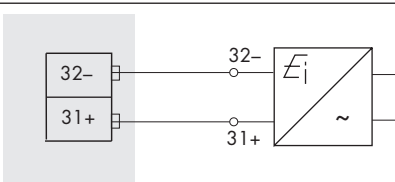

Fig. 9: Measuring signal connection in two-wire system
11. Guide the measuring signal lines (min. 8 mm stripped length) through the cable gland and connect them to the spring-cage terminal (31, 32) on the terminal board (see Fig. 9). Observe the correct polarity.